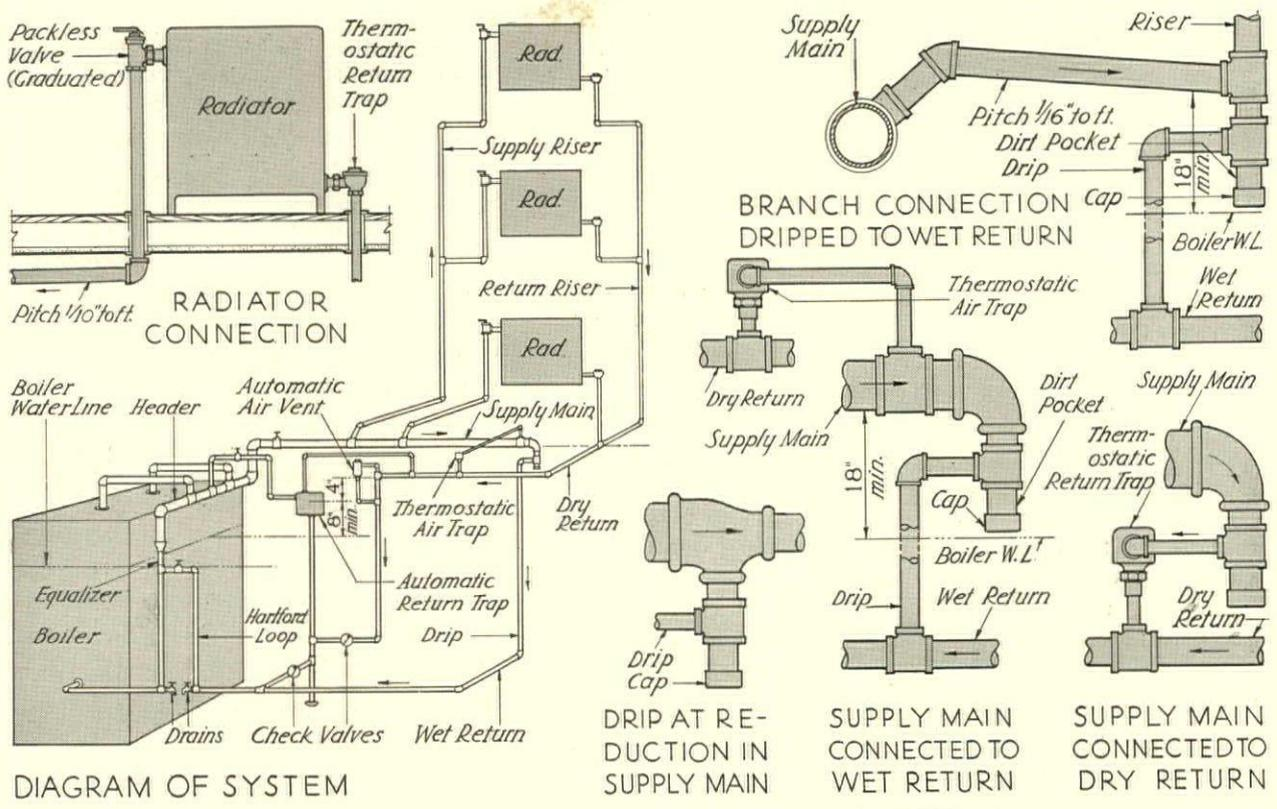

FIG. 2. DETAILS OF TWO-PIPE VAPOR HEATING SYSTEMS
**Elements** include boiler; hot water type radiation; a system of steam mains and branches serving radiators, a separate system of smaller dry returns (above water line of boiler) carrying air and condensate back to the boiler independently of supply lines; usually a set of wet returns for dripping the mains; radiator control valves of shut-off or modulating types at tops of radiators (preferably equipped with orifices); thermostatic traps on the return end of each radiator or convactor that will pass condensate and air but close against steam; thermostatic air traps on the ends of mains. Air in dry returns is vented to atmosphere by automatic, non-return air trap near the boiler. Condensate from dry return is returned to boiler by an automatic trap or pump; system must be air tight throughout, hence packless radiator valves are generally used. See Fig. 2.